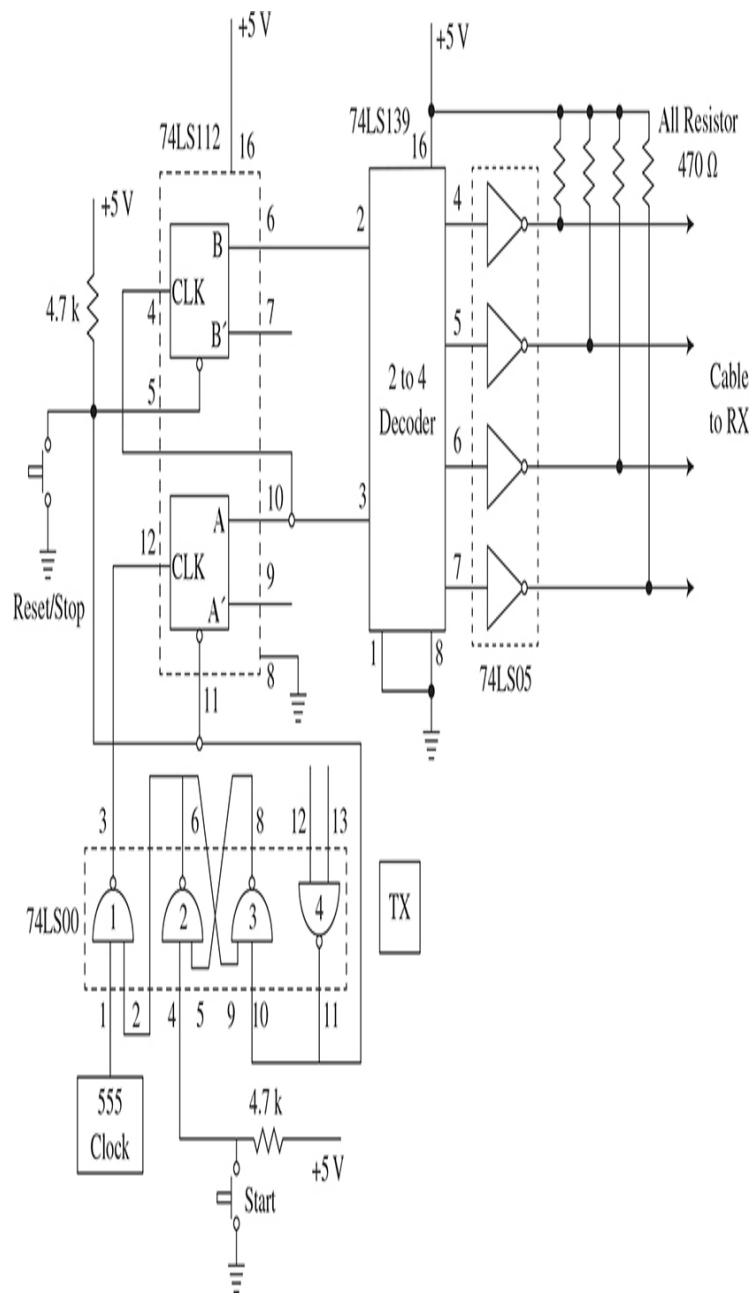
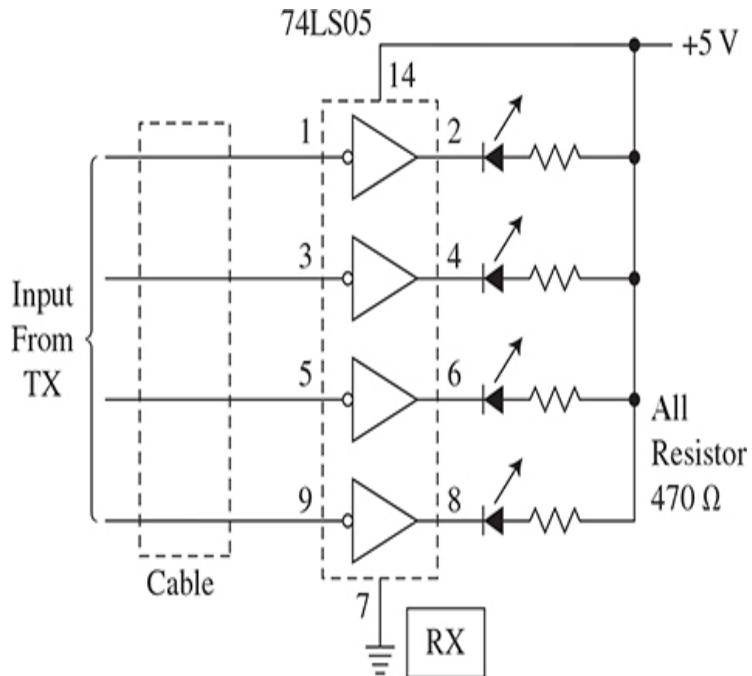

Figure B11.3.1 A complete logic diagram of the cable tester transmitter (TX).
Figure B11.3.2 The complete cable tester receiver (RX) circuit.
A cable tester is shown in two parts, the transmitter (TX) in Fig. B11.3.1 and the receiver (RX) in Fig. B11.3.2.
Refer back to Fig. B11.3.1. The clock drives two JK flip flops in the 74LS112 IC that makes a simple counter to generate four states (00, 01, 10, 11). These four states from FF A and B are decoded into four states by the 74LS139 2-line to 4-line IC. This decoder outputs signals are sent to some 74LS05 open collector inverters then put on the cable. If two or more of the wires in the cable are shorted two of the inverter outputs would be connected together. No damage will occur with open collector ICs. When one of the decoder outputs goes low, the inverter output will go high and will turn on the related LED.